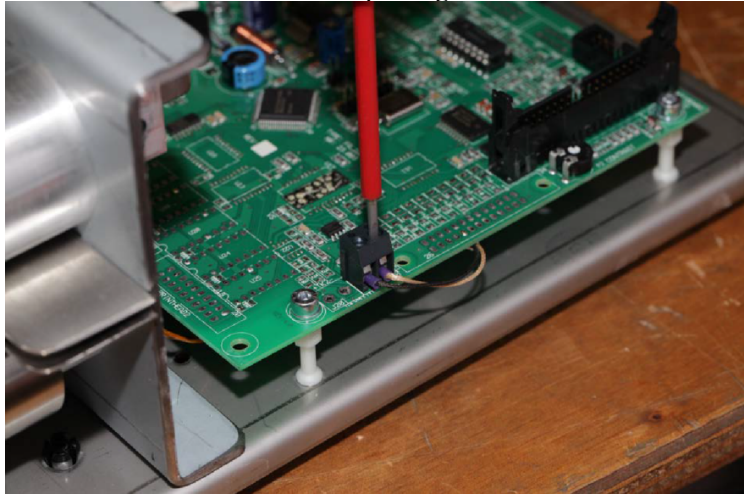

Figure 10
10. Release the wires for the thermocouple. **Fig. 10**